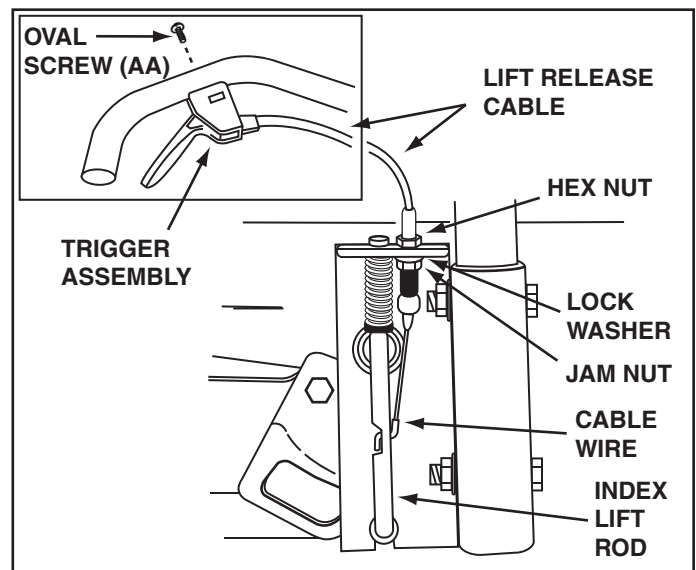

FIGURE 27
STEP 26: (SEE FIGURE 27)
- Install the trigger assembly to the lift handle using an oval screw (AA).
- Secure cable to handle with a plastic tie (HH) to prevent cable from interfering with tractor. Cut off extra plastic on end of tie.